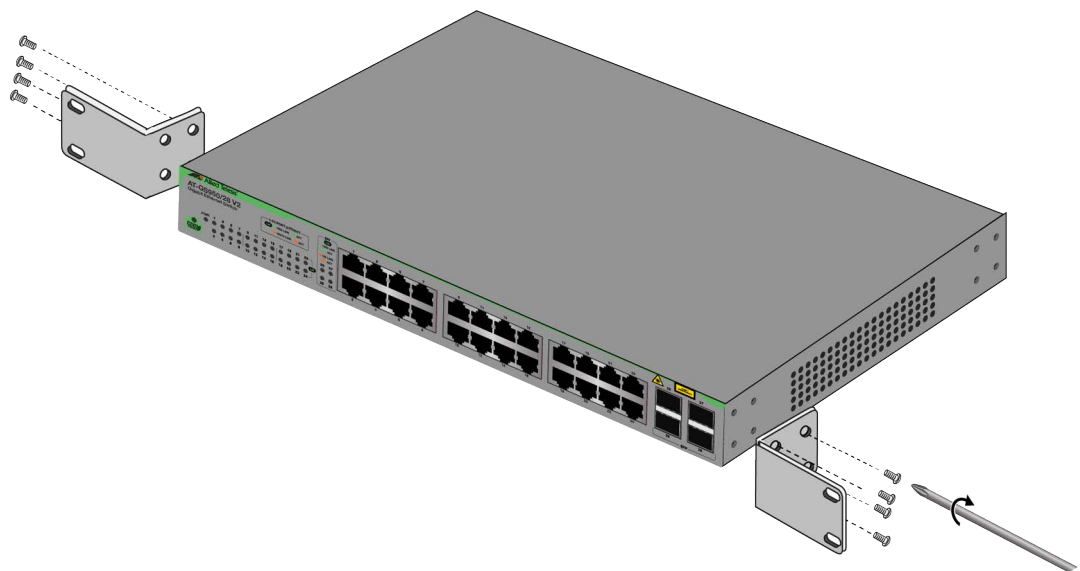

Figure 34. Attaching the Equipment Rack Brackets
3. Attach the two rack mount brackets to the sides of the switch in the selected positions, with the eight M3x6mm screws included with the unit. Figure 34 shows the brackets positioned so that the front panel is even with the front of the equipment rack.